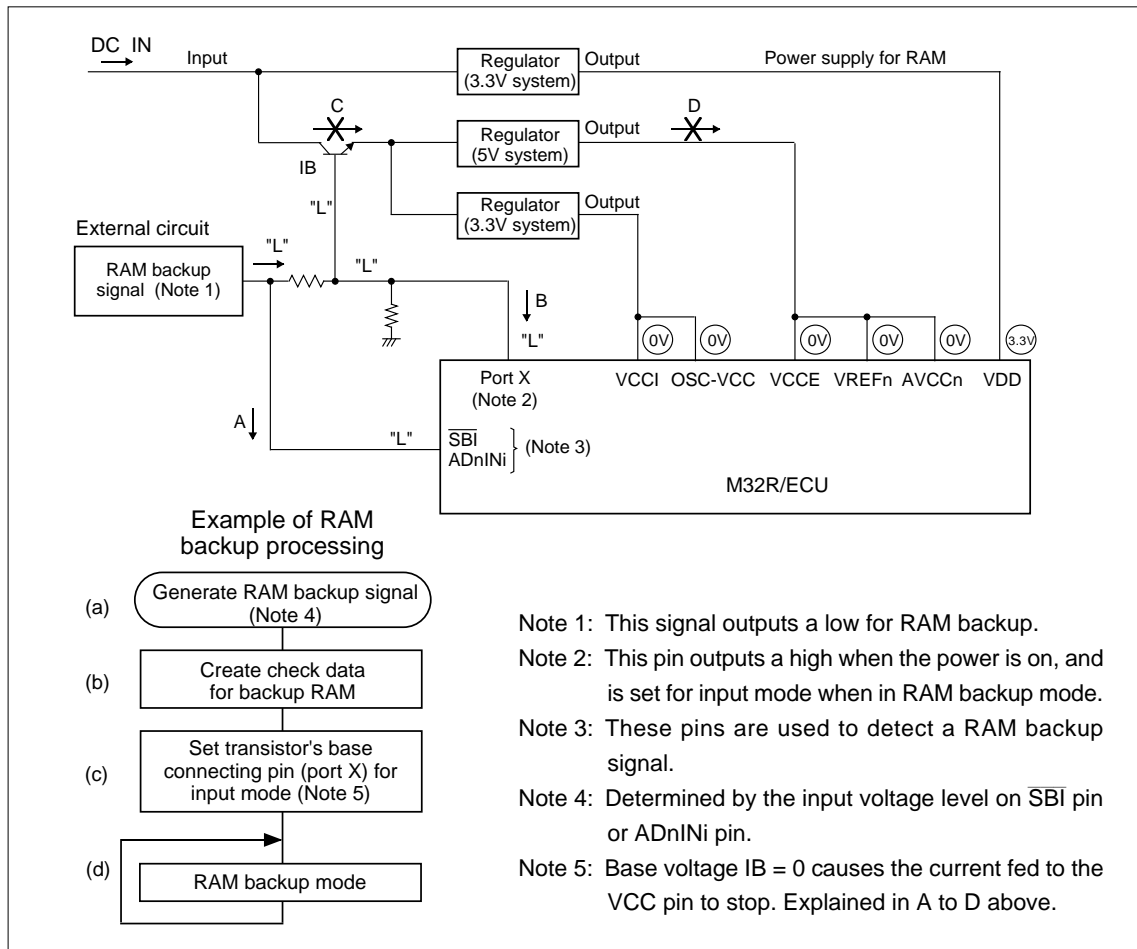
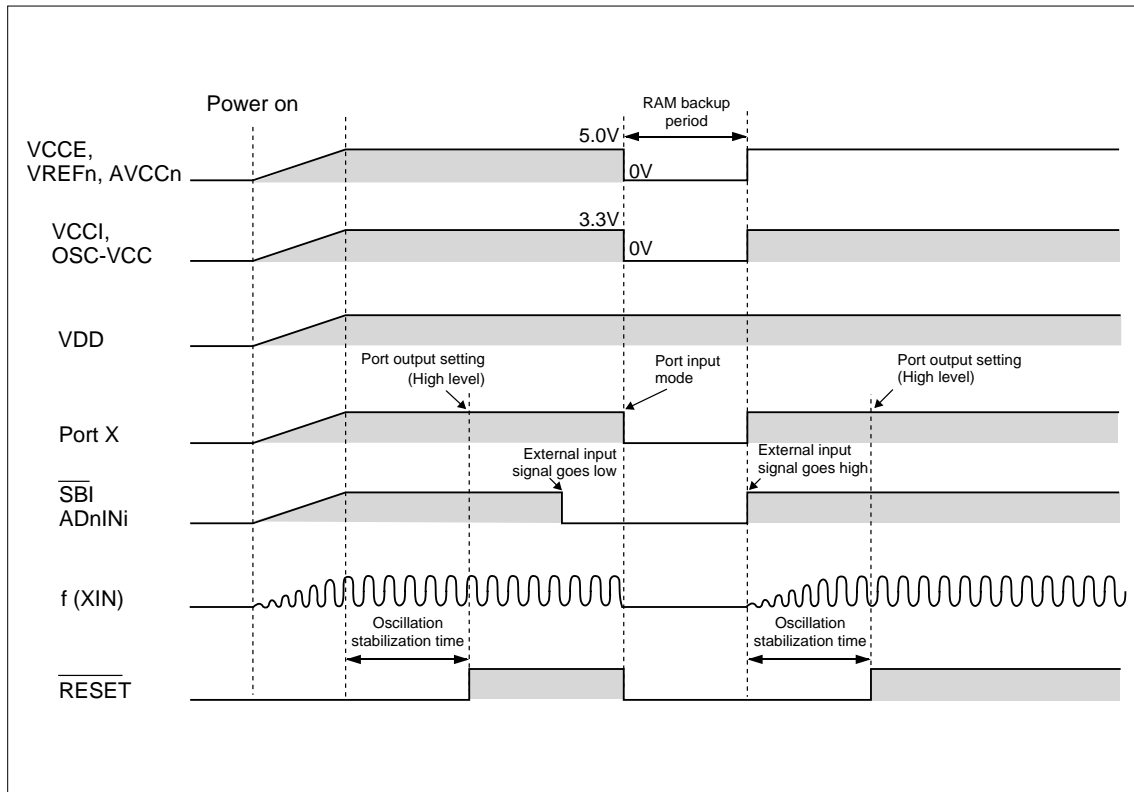

Figure 17.3.3 RAM Backup State for Low-Power Operation
Figure 17.3.4 Example of RAM Backup Sequence for Low-Power Operation
Figure 17.3.3 shows the RAM backup state of the M32R/ECU. Figure 17.3.4 shows a RAM backup sequence. When the external circuit outputs a low, input on the $\overline{\text{SBI}}$ pin or ADnINi pin goes low. A low on these input pins generates a RAM backup signal (A and (a) in Figure 17.3.3). To enable RAM backup mode, make the following settings.
- (1) Create check data to verify after returning from RAM backup to normal mode whether the RAM data has been retained normally ((b) in Figure 17.3.3).
- (2) To materialize low-power operation, set all programmable input/output pins except port X for input mode (or for output mode, with pins outputting a low) ((c) in Figure 17.3.3).
- (3) Set port X for input mode (B and (d) in Figure 17.3.3). This causes the transistor's base voltage, I_B , to go low, so that no current flows from the power supply to the VCC pin via the transistor (C in Figure 17.3.3). Consequently, the power to the VCC pin is shut off (D in Figure 17.3.3).
Due to settings in (1) to (3), the voltage applied to the VDD pin becomes $3.3 \text{ V} \pm 10\%$ and voltages applied to all other pins drop to 0 V , thus placing the M32R/ECU in RAM backup mode ((d) in Figure 17.3.3).